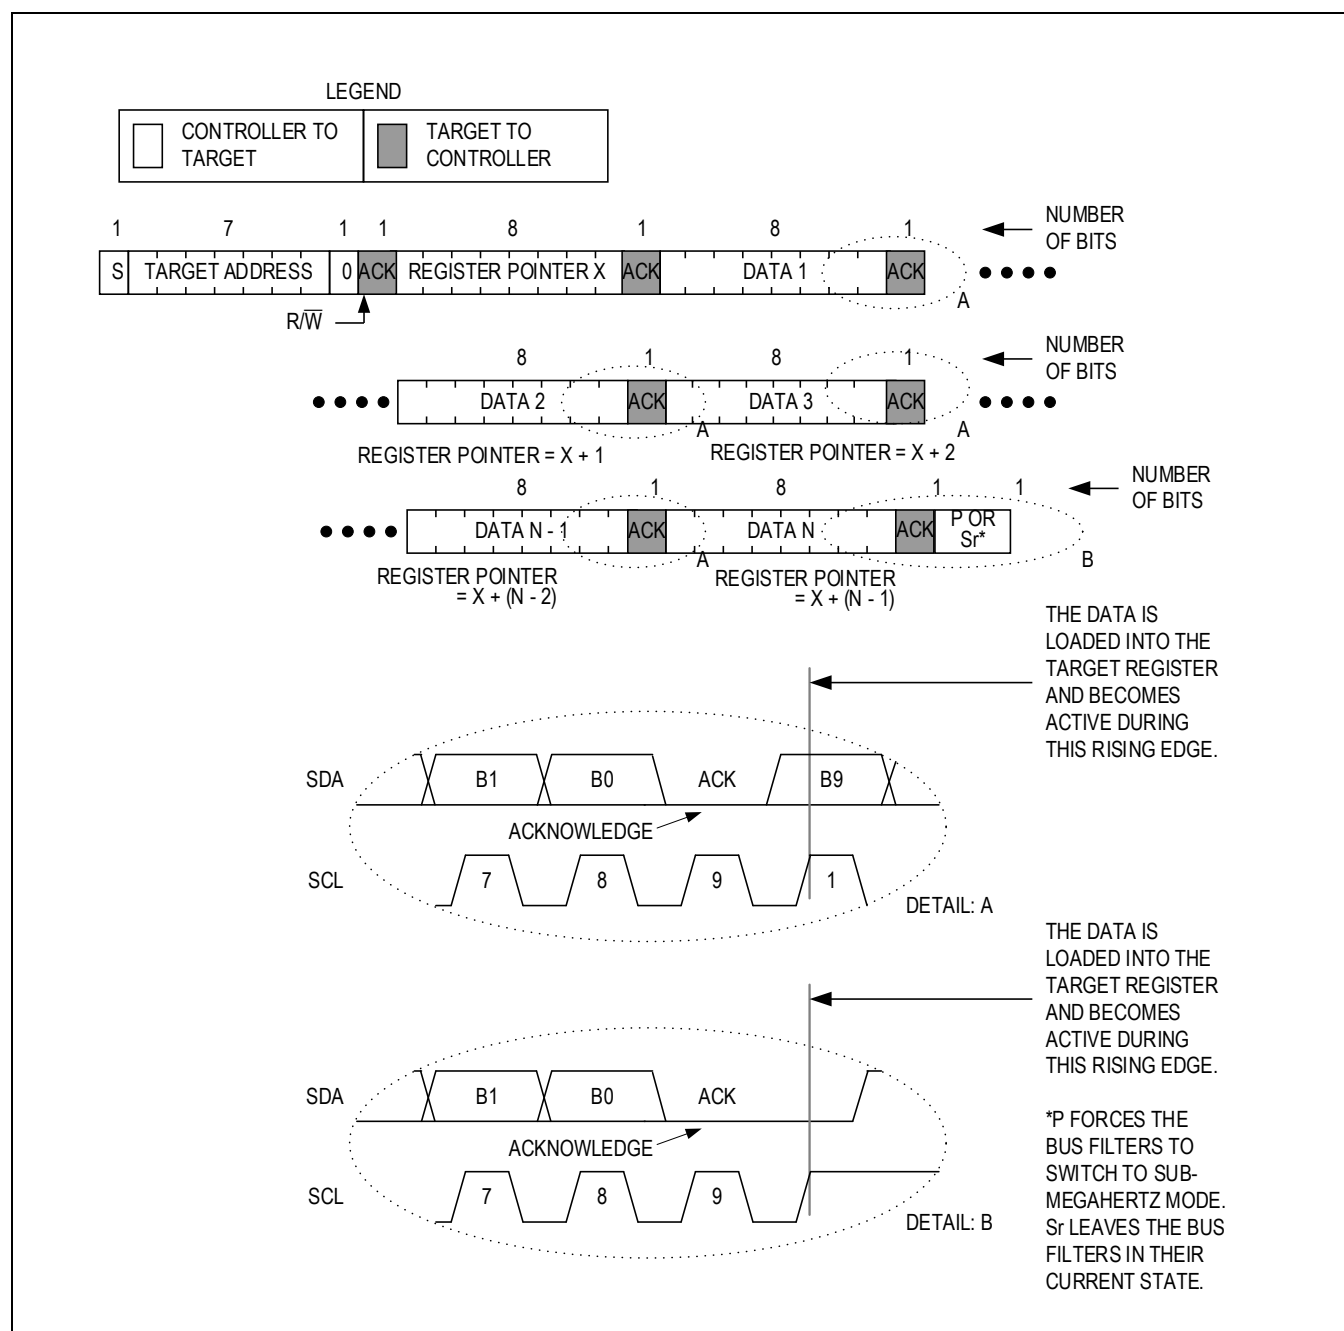

Figure 19. Writing to Sequential Registers
Figure 19 shows the protocol for writing to sequential registers. This protocol is similar to the write byte protocol, except the controller device continues to write after the target device receives the first byte of data. When the controller is done writing data, it issues a STOP condition (P) or REPEATED START condition (Sr).